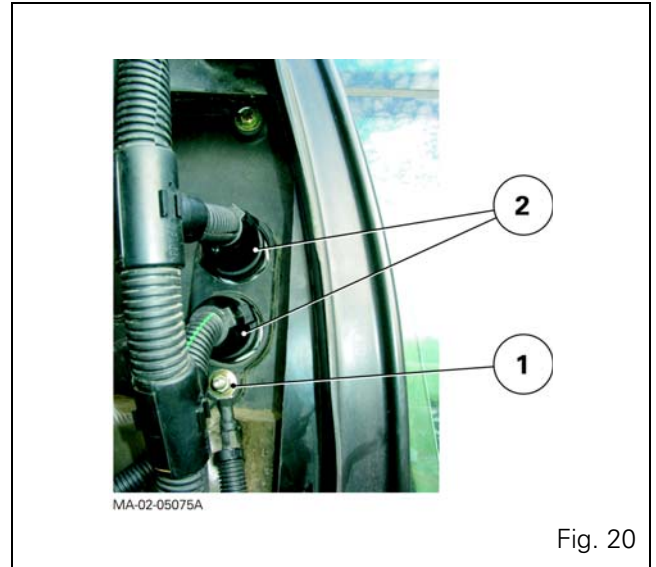

Fig. 20
46. Disconnect the connectors (2) and the ground terminals (1) on the left-hand side of the cab bulkhead (Fig. 20).